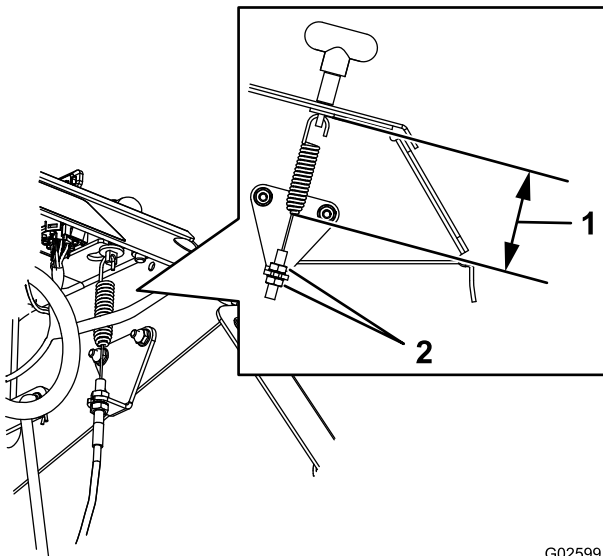

Figure 57
4. Loosen the jam nut on the brake cable under the console (Figure 57).
5. Engage the parking brake (Figure 57).
6. Adjust the jam nut position until 7.9 cm (3-1/8 inch) from the bottom of the link to the bottom of the spring (Figure 57).
7. Secure the adjustment of the cable by tightening the jam nuts (Figure 57).